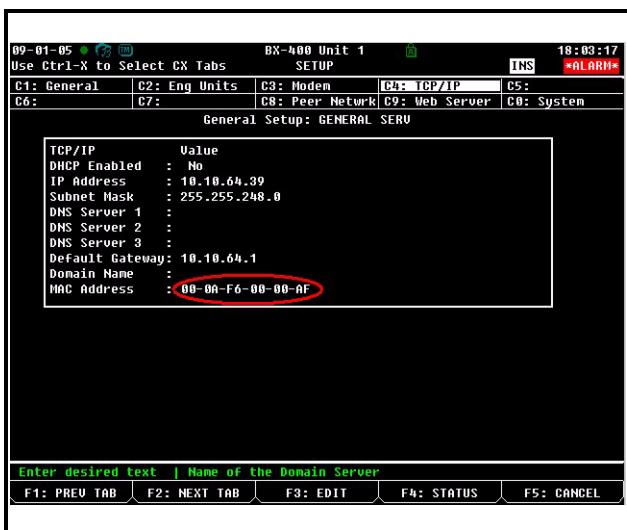

Figure 10-33 - TCP/IP Screen - Locating the Mac Address
3. Press **3** (TCP/IP Setup) to open the TCP/IP Setup screen and locate your E2's MAC address (circled in **Figure 10-33**):